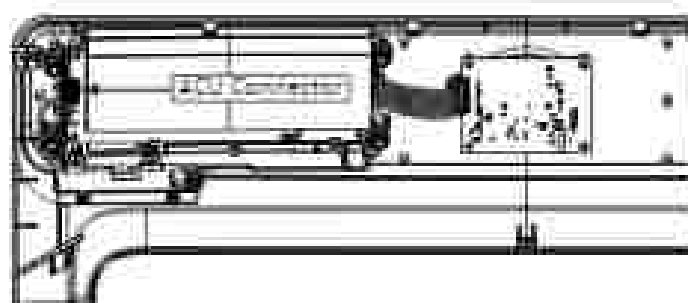

Figure 2 • Maytag Console HMI
3. Visually check that all ACU connectors are inserted all the way into the ACU. See Figure 2, page 3-7.